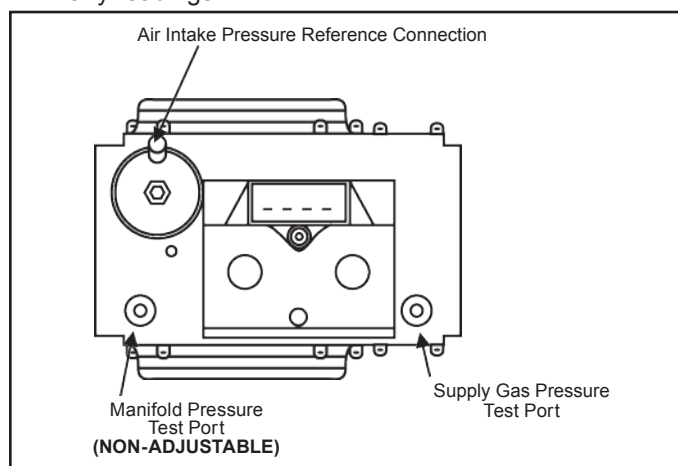

Figure 57. Gas Valve Assembly
3. Close the Main Gas Shut Off Valve. See *Figure 57*.
5. Connect manometer to the supply gas pressure port on the gas valve. See *Figure 57*.
On the water heaters covered by this manual there are test ports for supply and manifold gas pressure readings on the gas valve. Using a small flat tip pocket screw driver - open the needle valve inside the supply gas pressure test port one full turn only; turn the needle valve screw counter-clockwise to open the valve. Slide the manometer sensing tube over the top of the test port. See *Figure 57*.